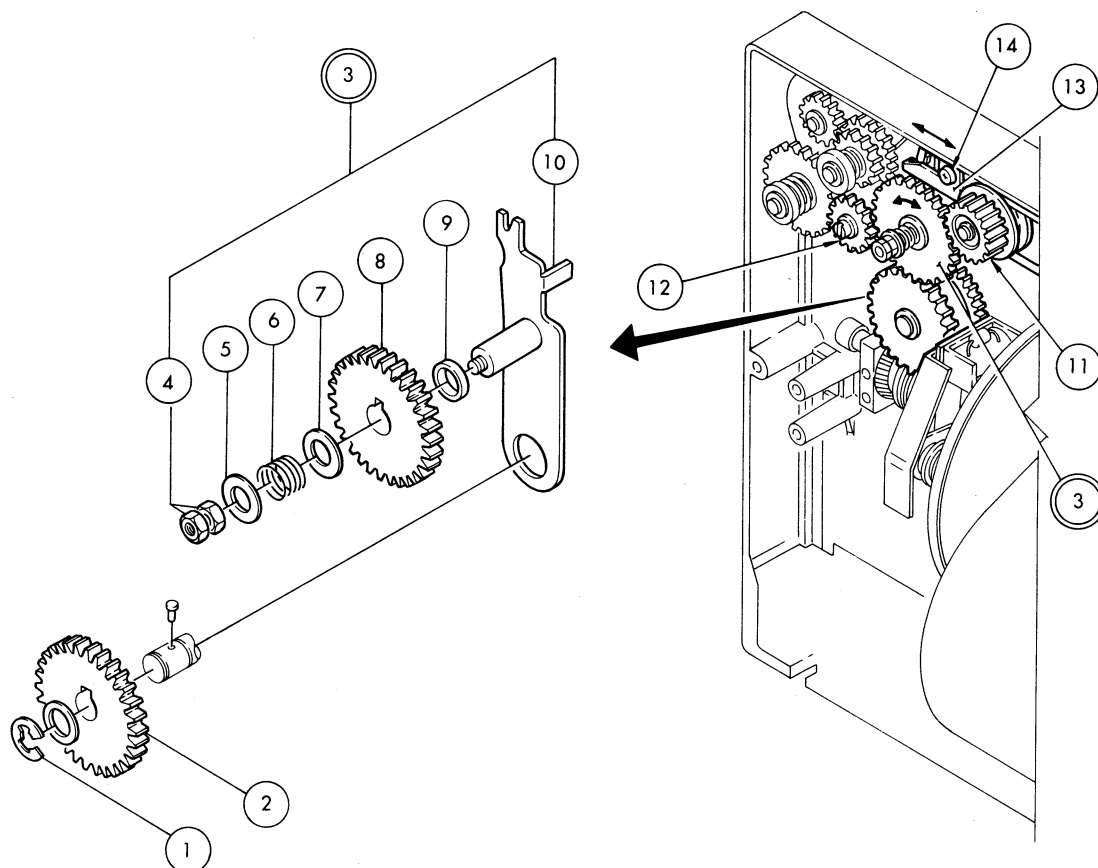

Fig 25
A. Disassembly Refer to Fig.25.
1. Remove (1)(2) and take out ((3)).
2. Disassemble the rest, referring to Fig.25.
- Breakage of (2)(8); No take-up on both Forward/Reverse
- Faulty pressure adjustment of (6) — Insufficient;